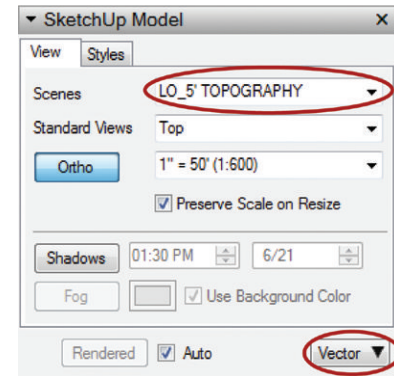

Figure 15.30 The SketchUp Model settings
8. In the SketchUp Model Inspector, on the View tab, assign the LO_5' TOPOGRAPHY scene to the viewport. Set the viewport to render as Vector (Figure 15.30).